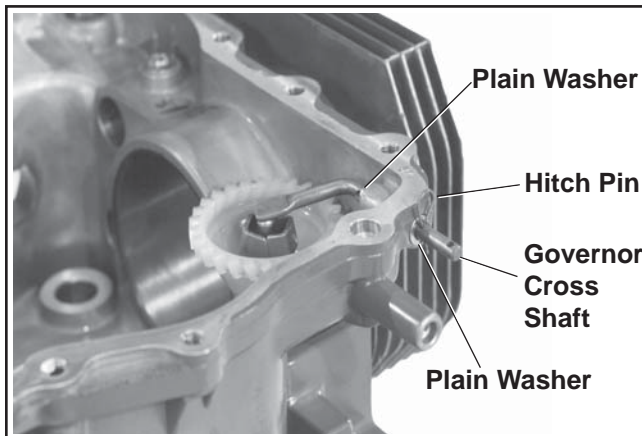

Figure 11-3. Installing Cross Shaft.
- Install smaller plain washer to the cross shaft and insert the cross shaft (from inside) through the crankcase and oil seal. See Figure 11-3.